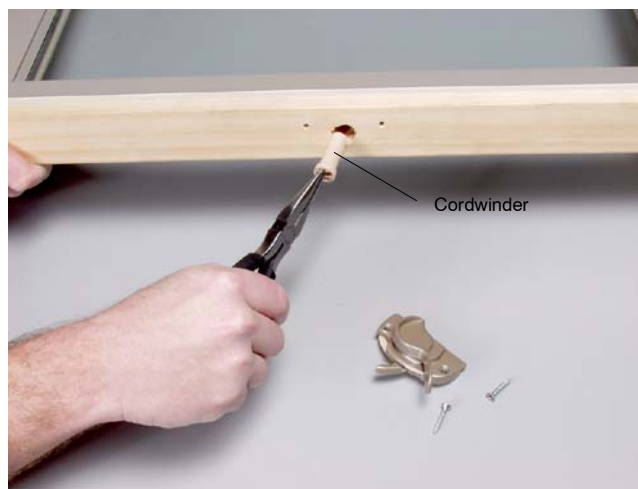

Figure 2-Removing cordwinder
2. Using a needle nose pliers, remove the cordwinder from the sash and set aside. See figure 2.